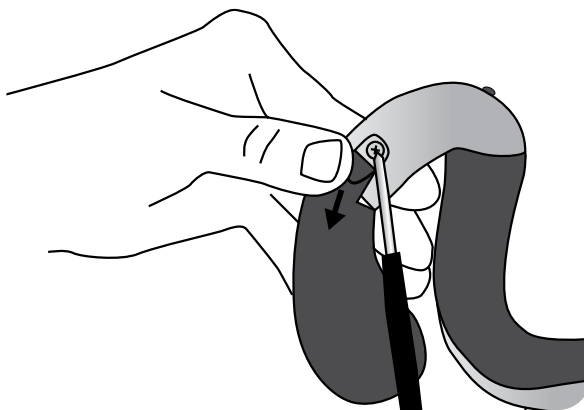

Figure 6-2: Attaching the Thenar to the Orthosis
4. Tighten the thenar screw. The screw secures the thenar in place and makes the electrical contact between the thenar and the Orthosis. See Figure 6-2.